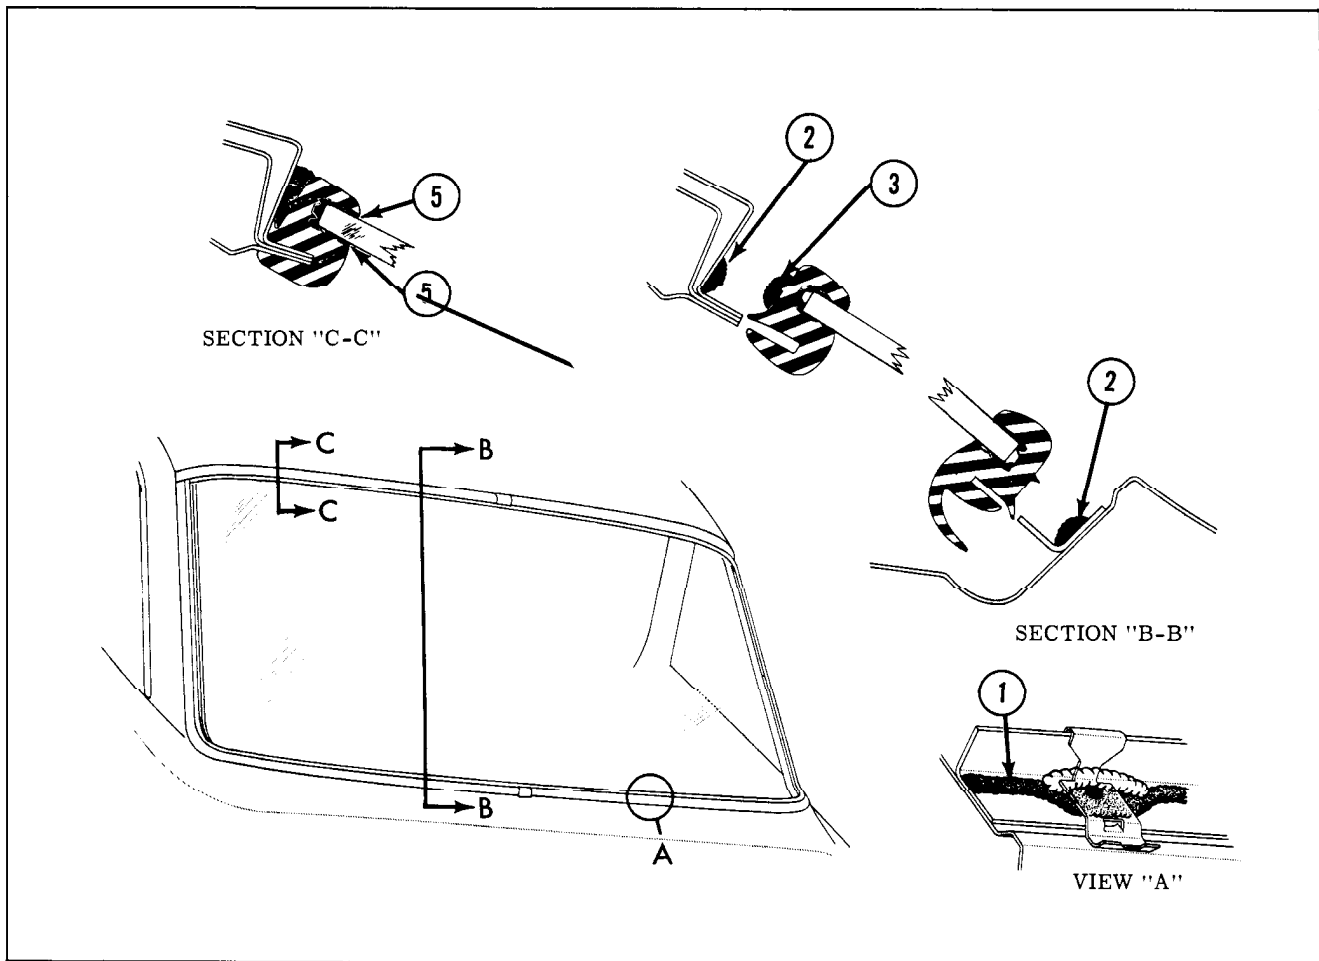

Fig. 17-82 Back Window Sealing (3819-29 and 37 Styles)
apply medium-bodied sealer to opening rabbet, prior to installing clips. ("1", View "A", Fig. 17-82)
3. Apply a continuous ribbon of medium-bodied sealer (approximately 1/2" wide by 1/4" thick) on wall of rabbet, completely around opening. ("2", Section "B-B", Fig. 17-82)
5. Apply a continuous ribbon of medium-bodied sealer (approximately 1/2" wide by 1/4" thick) to base of rubber channel across top and down sides at opening. ("3", Section "B-B", Fig. 17-82)
8. Using a pressure type applicator, apply sufficient medium-bodied sealer to completely fill wedge shaped opening between rubber channel and body across top and down sides of rubber channel. ("4", Section "C-C", Fig. 17-82)
9. Using a pressure type applicator (pistol type oiler) apply weatherstrip adhesive (black) between rubber channel and glass on inside and outside of glass around entire perimeter of glass. ("5", Section "C-C", Fig. 17-82) Application of adhesive should be continuous with no skips.